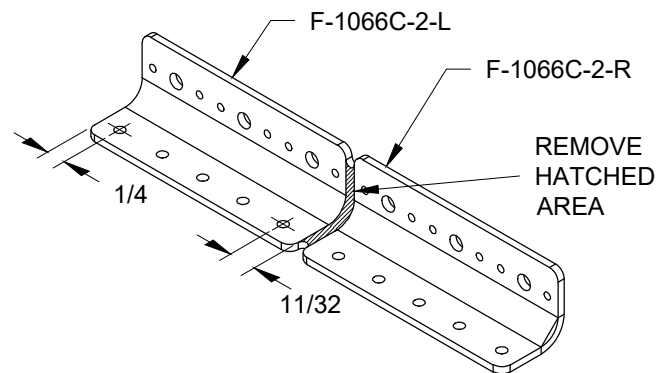

FIGURE 1:
Step 1: Cut apart the F-1066C-2 Reinforcing Angles into F-1066C-2-L & -R as shown in Figure 1. Mark them 'L' and 'R'.